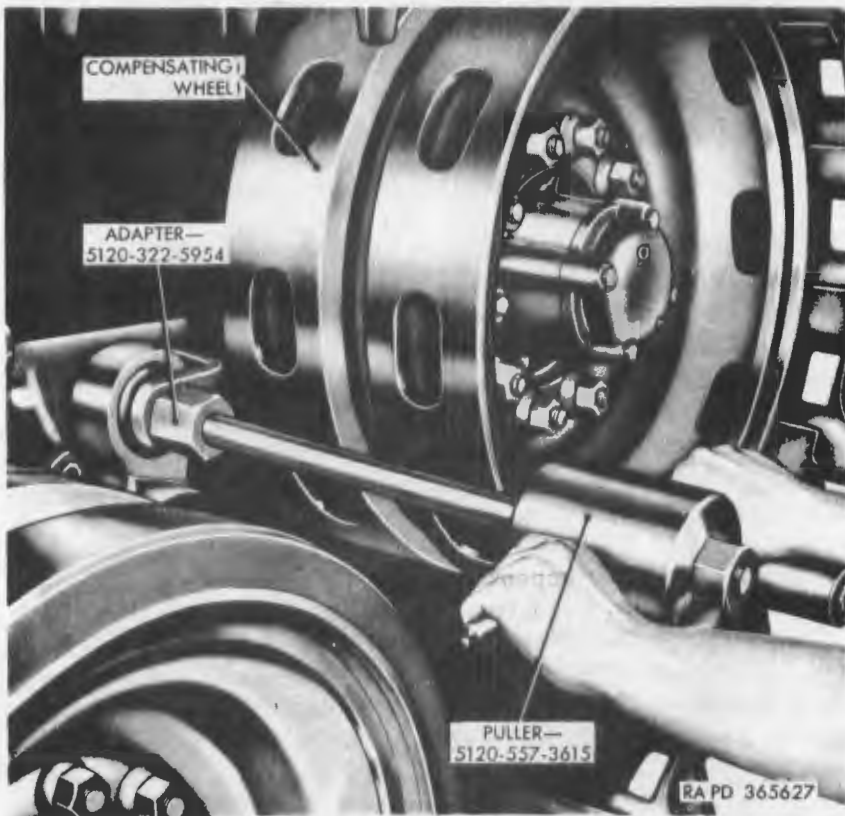

Figure 225. Removing bolt from link of connecting link assembly.
a. *Description.* The connecting link assemblies (N) transfer vertical movement, which would tend to loosen the track, from the front road wheels to the compensating wheels. As the road wheels swing up to go over an obstacle, the link assembly moves the compensating wheel forward, thus maintaining a constant tension on the track assembly.
- (1) Remove compensating wheel (par. 226b).
- (2) Remove hub assembly from supporting arm with hub and spindle assembly (R) (par. 227b).
- (3) Remove one cotter pin (K) slotted hex nut (L), and plain washer (M) from hex-head bolts (U) securing ends of connecting link assembly (N). Thread adapter 5120-322-5954 (fig. 225) into hex-head bolts, attach puller 5120-557-3615 to adapter and pull bolts from link assembly. Remove link assembly.
c. *Disassembly.* To disassemble connecting link assembly (N) press self-aligning bearing assembly (N-2) out of connecting link (N-1) using remover and replacer 41-R-2373-455 and handle 5120-473-7121.